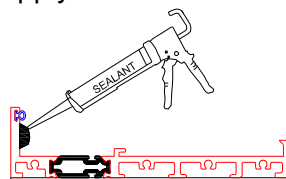

Figure 19:
1. Before glazing, apply a continuous bead of sealant to the fixed leg of the frame (Figure 19).